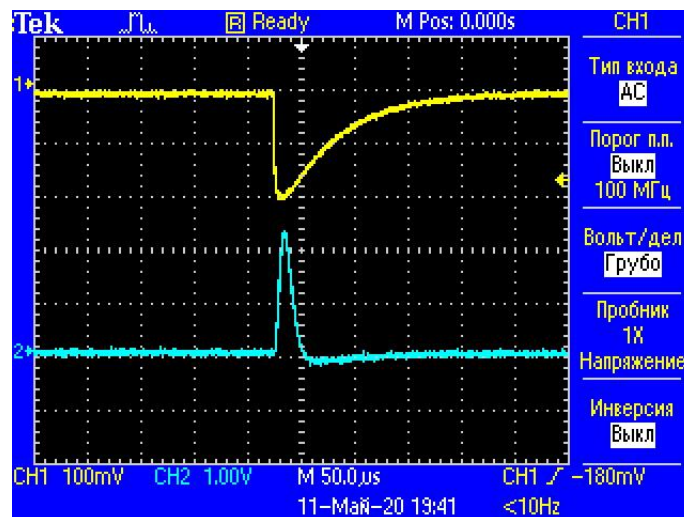

Fig. 9. Output signals
- 1 After switching on, use Polarity selector (5) and set a negative pulse from u-CSA (see Fig. 9);
- 2 Set DC offset signal selection (9) to ON;
- 3 Use DC offset precision potentiometer (8) and set bias voltage to +2-2.5V;
- 4 Select External feedback (7) and pick up empirically feedback Cf-Rf which there is no saturation of the Shaper Amplifier (For example: Cf=4.7nF, Rf= 10kOhm)